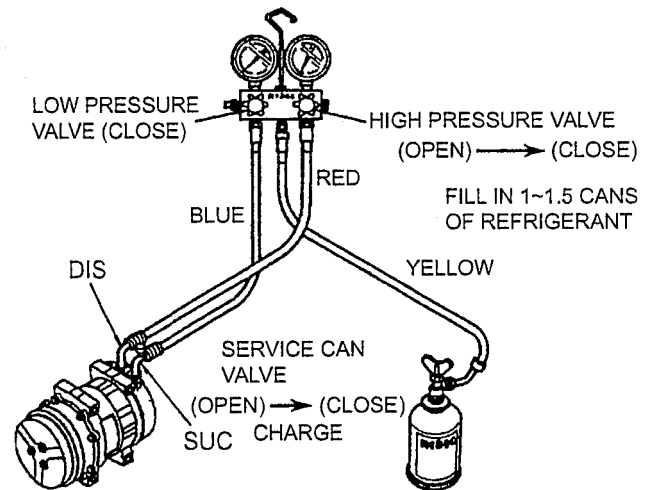

Fig. 25-29 Gas charging operation (High pressure side)
- 2) Open the high pressure valve of the gauge manifold and charge in refrigerant. [Charge in gaseous refrigerant to a gauge pressure of 0.1 MPa (14 psi).] After charging, close the high pressure valve of the gauge manifold and the service can valve. (See Fig. 25-29.)